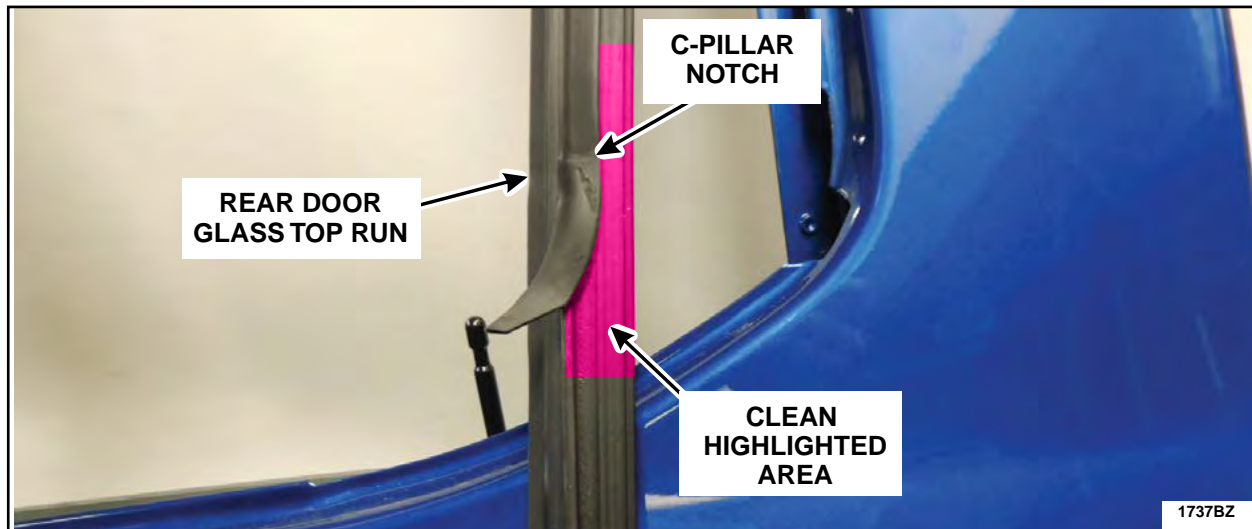

FIGURE 70
12. Clean the highlighted area of the rear door glass top run with isopropyl alcohol and a clean shop cloth. See Figure 70.